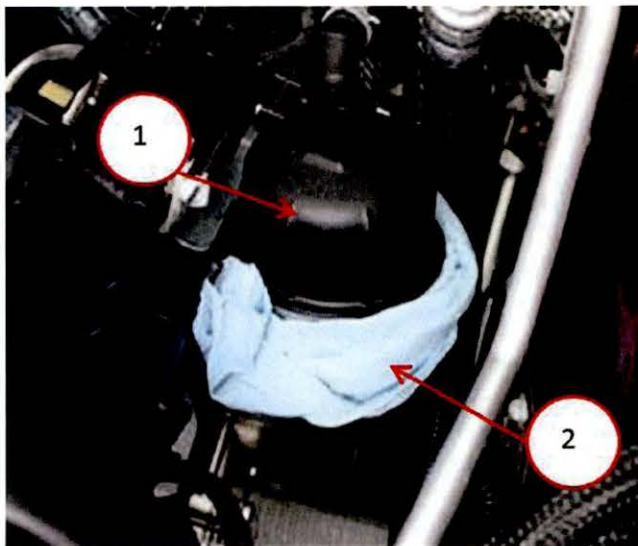

Fig. 1 Oil Filter Housing
1. Install a shop rag around the oil filter housing (Fig. 1) to capture any oil spills that may occur.